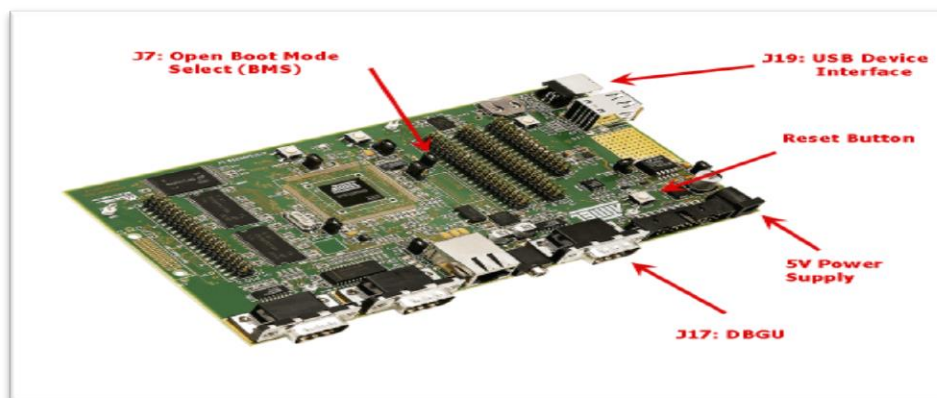

Figure 2. AT91SAM9260 Evaluation Kit
- Jumper (J7) must be opened to boot from on chip Boot ROM (Boot Mode Select BMS = 1) as shown in Figure 2.
Once the U-boot is set on the AT91SAM9260 board it is ready for loading linux kernel through network. The Root File System (RFS) is located on the host machine and using Network File System it is to be loaded on the board's RAM i.e. it can be said as RFS through NFS. To launch the linux on a AT91SAM9260 board ready with U-boot, connect the serial (RS-232) cable between host machine and the board (COM0/ttyS0 port of host machine and RS-232 port of the board). When connected and board is powered up, in the minicom shell the window as shown in Figure 7 appears. Now press the RESET button (Refer Figure 2) on the board, it will show memory details of the board (RAM size, NAND Flash, Data Flash, Data Flash page size, number of pages, logical memory addresses etc.) as shown in Figure 8.